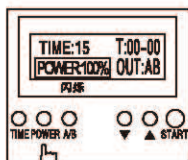

figure3
4. Press "POWER." Key, the output of the POWER value is flashing, this time can be adjusted by the (▲) down (▼) button to set the value of the need to each time you press the increase or decrease 10%, the POWER output range from 40% to 100% full POWER output is optional, according to the need to customize the set and then press the "POWER (POWER)" key to confirm the selected POWER. As shown in figure 3 below: